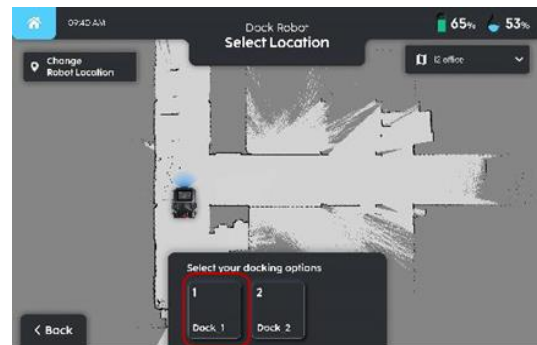

FIGURE 3-18
2. Once Robot is localized select the Refuel Station for docking (Fig. 3-18).